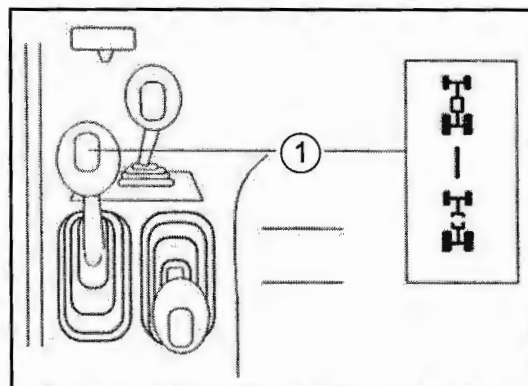

Fig. 17-1 - Four Wheel Drive Select Lever
To change from two wheel drive to four wheel drive, stop the tractor, depress the clutch pedal and then shift the four wheel drive select lever (1) forward. (See Fig. 17-1).